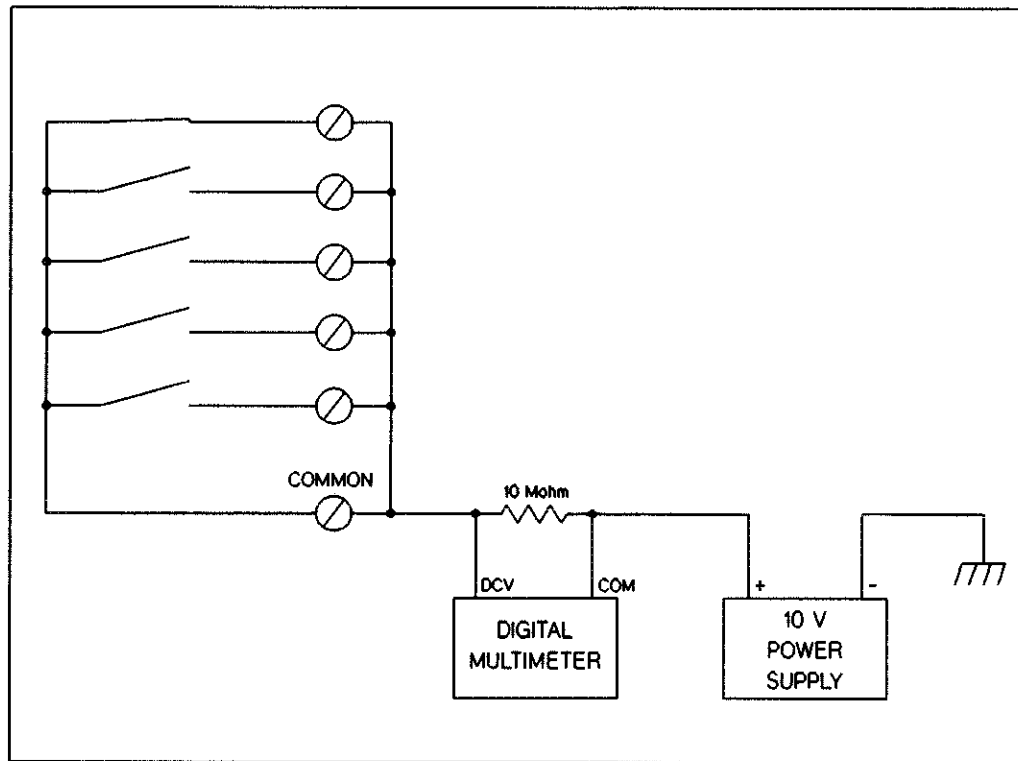
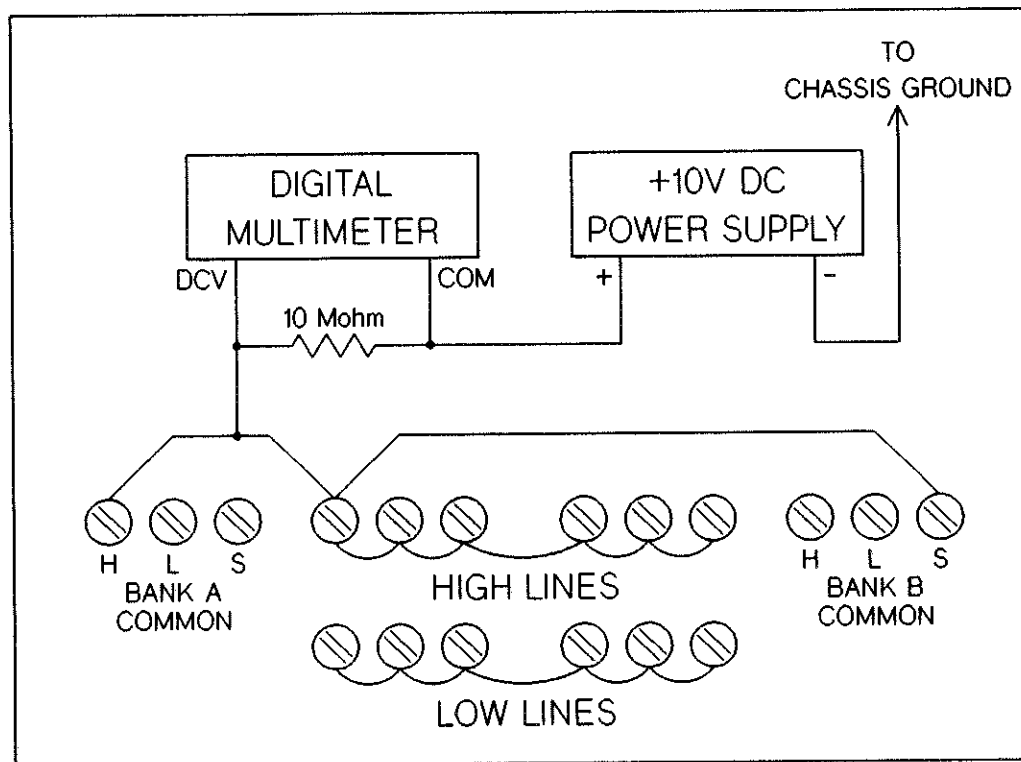

Figure 10-20 Closed Channel Leakage Test
Figure 10-21 HP 44711A Closed HIGH Channel Test Set-Up
14. **CLOSED CHANNEL LEAKAGE/BIAS CURRENT TEST.** This test checks each channel HIGH and LOW for leakage current when a channel is closed. A simplified schematic of the setup is shown in Figure 10-20 and the test setup for the HIGH lines is shown in Figure 10-21.